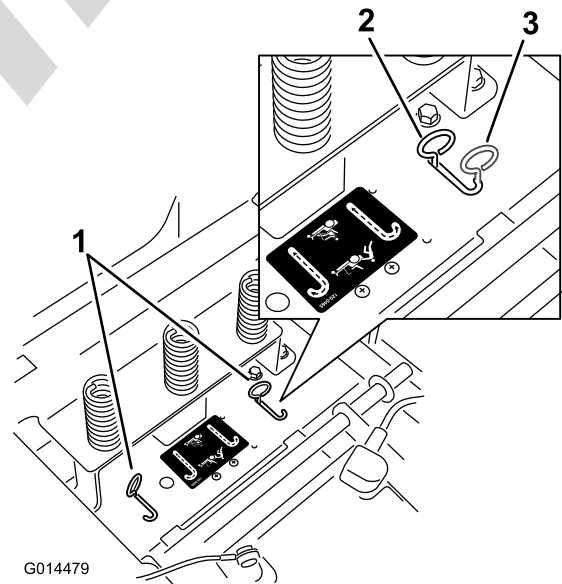

Figure 24
4. Move the bypass levers forwards and then out to lock them in place as shown in Figure 24 to disengage the wheel motors. Repeat this for each lever.
Move the bypass levers inward and push them back in the horizontal slot (Figure 24) to engage the wheel motors.